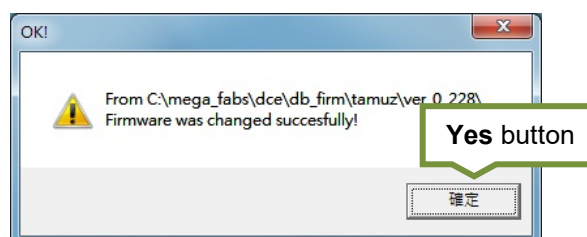

Figure14.1.5
- Step 4: After the firmware is updated, a window shown as figure 14.1.5 appears. Click on **Yes** button.